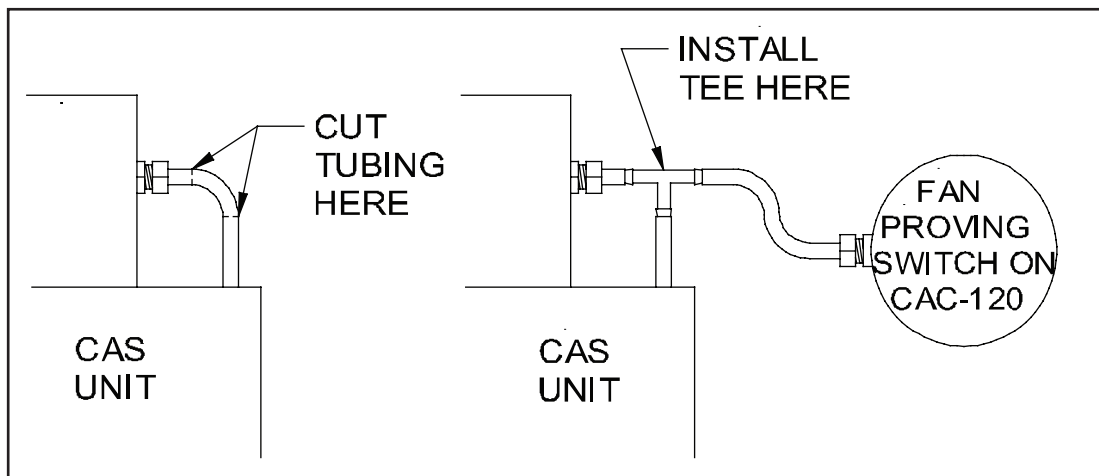

Figure 2
2. Cut the exposed tubing on the CAS-3 as shown in Figure 2. Install the provided plastic Tee and connect the tubing from the CAC-120 to the Tee.